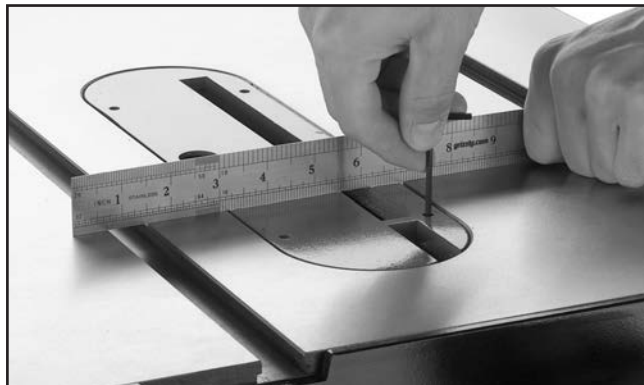

Figure 30. Adjusting insert flush with table.
2. Adjust table insert set screws to make sure insert is flush with table, using a straightedge as a guide (see **Figure 30**).